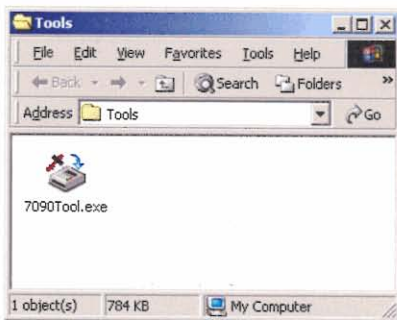

Figure 5-202
- 4) Open the installed "Tools" folder and start up the "7090Tool.exe" file. (See Figure 5-202.)